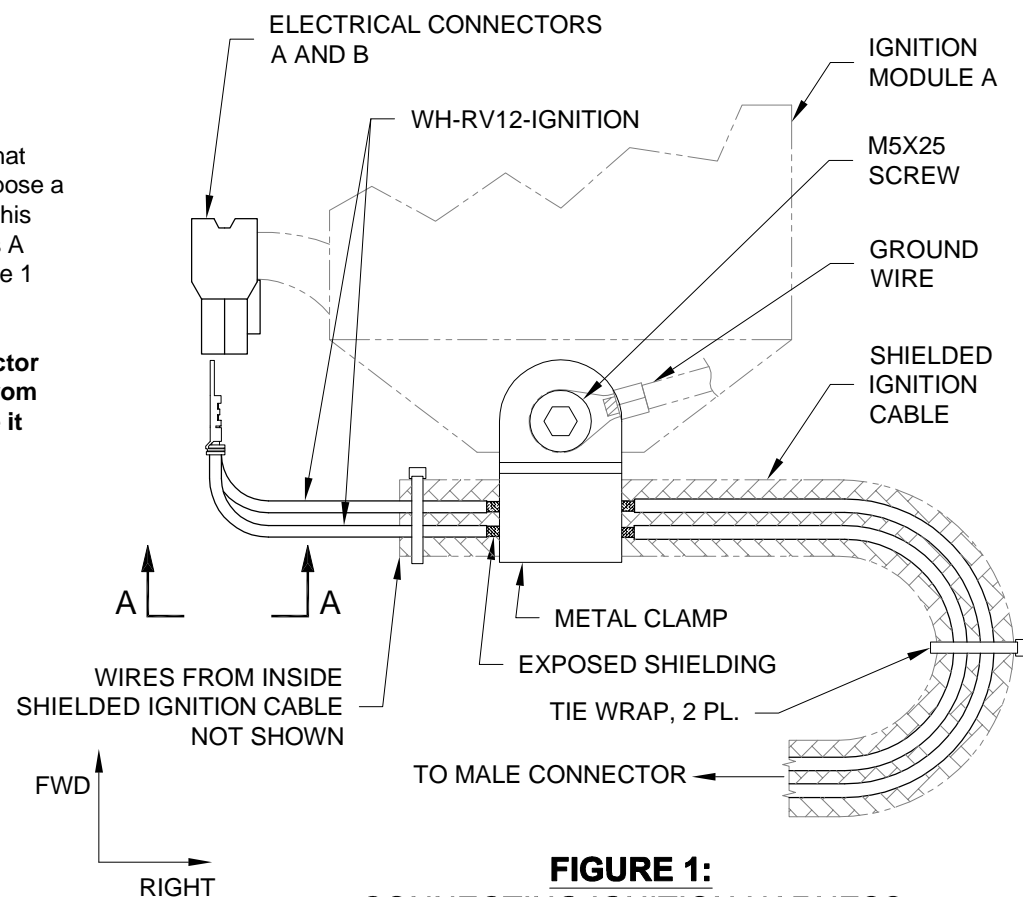

FIGURE 1:
Step 1: Identify the portion of the WH-RV12-IGNITION Wiring Harness that has the outer insulation removed to expose a length of shielding. The end closest to this will connect to the electrical connectors A and B at the ignition module. See Figure 1 and View A-A.
Step 5: Remove the M5X25 allen screw retaining the clamp. See Figure 1.